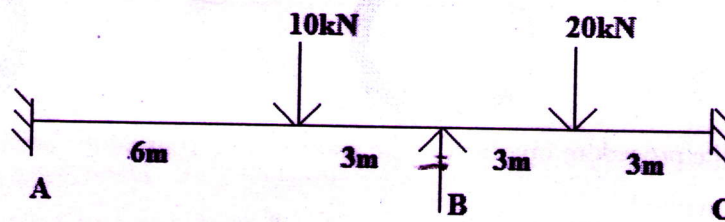

Fig. 5
- 15 Analyse the continuous beam shown in Fig. 5 using stiffness method. Draw BMD also. Assume EI as constant throughout. (14)